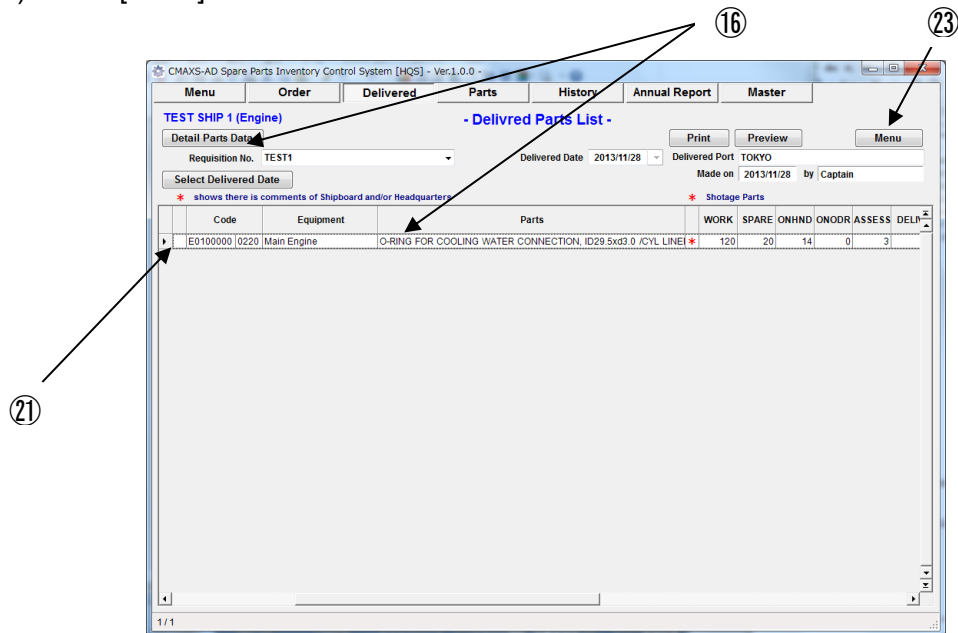

Fig.9-5 Delivered Parts List Screen
(16) On the “Delivered Parts List Screen”(Fig.9-5),
(18) If you want to print parts information, select [Print].
(19) If you want to see preview, select [Preview]
(20) Select [Close] to return to “Delivered Parts List Screen”(Fig.9-5).
(21) If there is a comment from shipboard, [\*] is shown on left side potion.